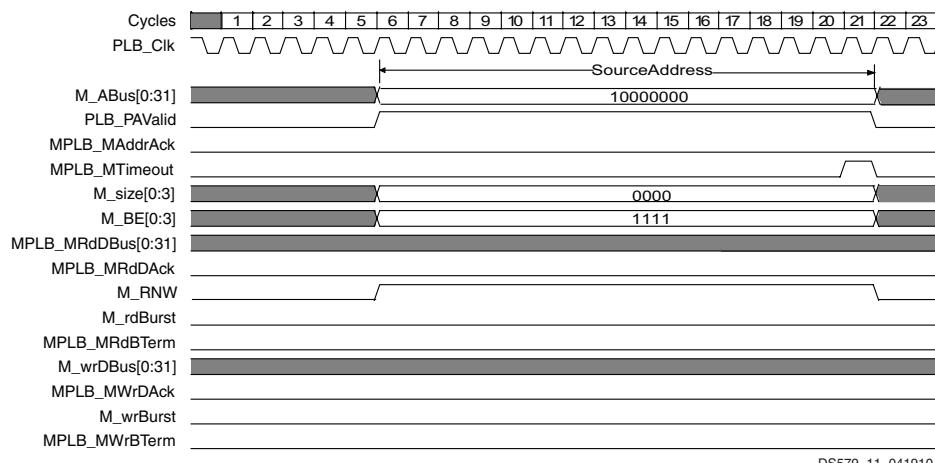
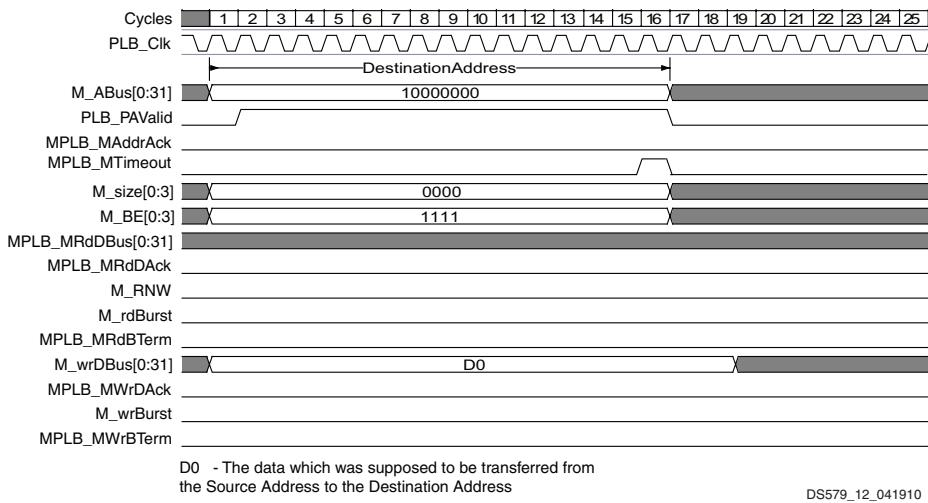

Figure 11: Read Time Out for 32-bit Aligned DMA Transfer of Length 8
Figure 12: Write Time Out for 32-bit Aligned DMA Transfer of Length 8
2. Read and write transactions of a time-out case in a 32-bit aligned DMA transfer of length 8 bytes are shown in Figure 11 and Figure 12.